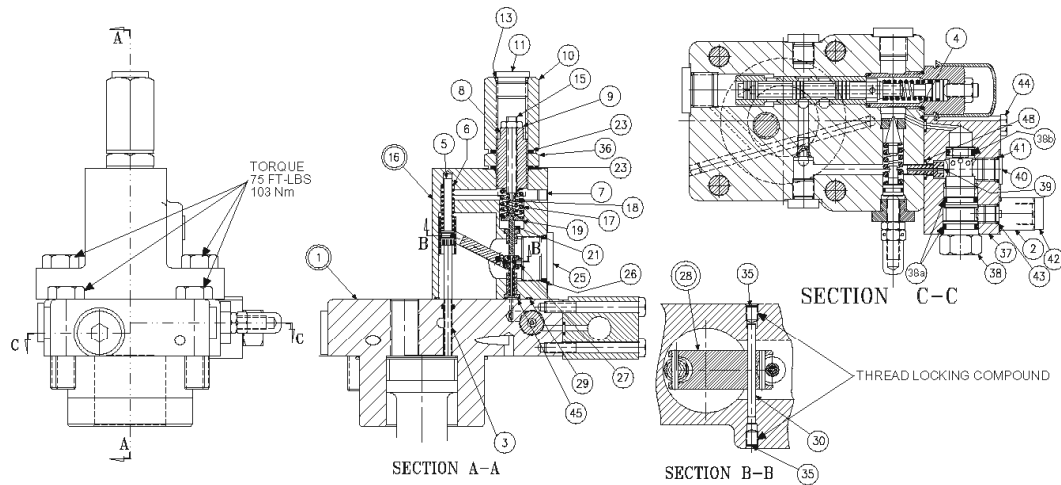

FIGURE 13
1. Install Avseal plugs (9) and .047", 1.19 mm. orifice (19) in body.
2. Press seat (10) into bore squarely against shoulder in bore.
3. Install plug (12) and spool (18) into bore as shown. Install spring (11) over end of spool. Install O-ring (6) on seal piston (16). Lubricate and install into plug (15). Install plug (15) into cap. Install screw (3), nut (4) and cover (17).
4. Install O-ring (6) on seal piston (5).
5. Lubricate O-ring and install cone (8), spring (7) and seal piston into bore in cap (1), being careful that cone enters seat (10). Install remaining parts in body (1).
6. Install O-rings (29-a) and (29-b) on valve (29). See Figure 13, page 40. Observe that backup ring on inside groove is toward the outside, the one on the middle groove is toward the inside, and the one on the outside groove is toward the outside. Lubricate and install valve (29) in block (28), being careful to avoid damaging the O-rings. Torque to 50 lb.*ft., 67.8 Nm.
7. For the P110 only, install O-ring (32) on adapter (35). Install adapter in block (28). Install plug (31) in adapter (35). For the P07 only, install O-ring (32) on plug (31). Install plug (31) in block (28).
8. Note proper location for cap on pump (page 24). Install O-rings on interface between cap and pump control pad. Install O-rings (26) in block (28).
PARTS LIST FOR FIGURE 13
1. **See Figure 13.** Remove 2 screws holding torque limiter body (16) to cap assembly (1).
2. Remove all parts from torque limiter body (16) except pin (30) and arm assembly (28). It is not necessary to remove these parts unless broken or worn. Examine parts for wear or damage.
3. Remove screw (3). Examine head for excessive wear, and body for smooth sealing surface with O-ring.
5. Remove modulating valve (38) from body (37). Remove body (37) from cap assembly (1). Note plug (40) must be removed to remove special screw (39). Remove cap assembly (1).
5. Lubricate O-ring and install cone (8), spring (7) and seal piston into bore in cap (1), being careful that cone enters seat (10). Install remaining parts in body (1)
8. **See Figure 13.** Install block (37) on cap (1) with O-rings (4) and (48). Use special screw (39) through the block.